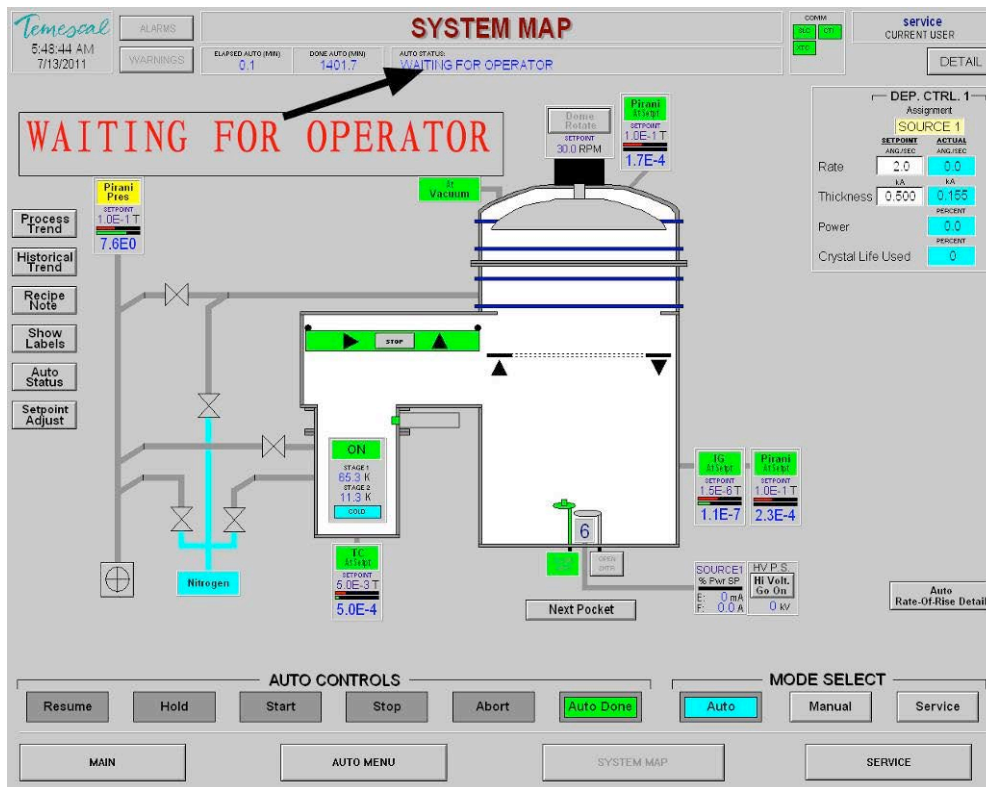

Figure 2: SYSTEM MAP
4. Check that communication indicators (CTI, XTC, and SLC) are green. The indicators are located on the computer screen in the upper right hand corner of the SYSTEM MAP screen. If any of the indicators are red (see Figure 2), there is a communication error and a Shared Facilities staff member needs to be notified.
5. Check that there are no Alarms or Warnings blinking at the upper left of the SYSTEM MAP (see Figure 2).
7. Check that the **STAGE 2** cryo pump temperature as shown on the SYSTEM MAP is below 14 K (see Figure 2). **NOTE:** If the temperature is above 18 K, then regeneration of the cryopump needs to be conducted. Contact a Shared Facilities staff member if the cryopump has been turned off or if there are any alarms.